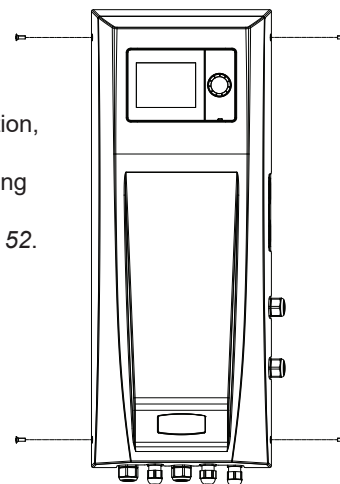

Figure 52. Front Panel Removal
- Remove Front Panel, refer to *Figure 52* and inspect all electrical connection for signs of damage / loose connections etc.
To allow for inspection, the casing must be removed by removing the four screws displayed in *Figure 52*.